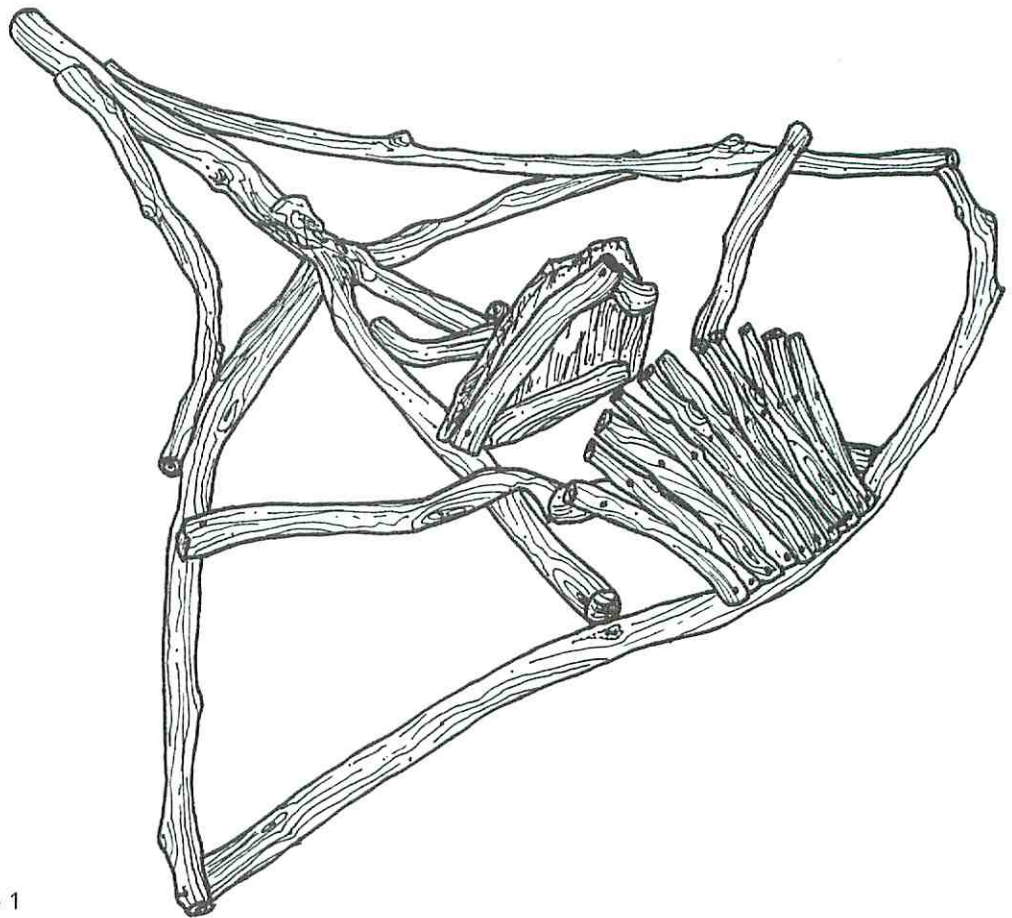

Figure 1
a few small pieces you've set aside for bracing. The feeder base (G) is just made by connecting a few offcuts together (see Fig. 1). Just ensure that they're all about the same diameter so you get a fairly even ledge.